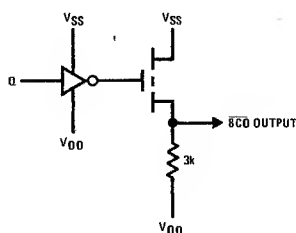
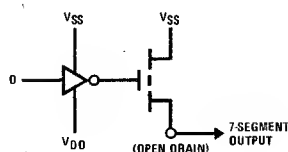
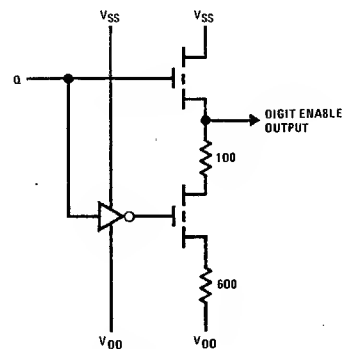

FIGURE 3. BCD Output Circuit
FIGURE 4. 7-Segment Output Circuit
FIGURE 5. Digit Enable Output Circuit
**Output Circuits:** *Figure 3* illustrates the circuit used for the BCD outputs. *Figure 4* shows the circuit used for the 7-segment outputs. The digit enables output circuit is shown in *Figure 5*. *Figures 6 and 7* illustrate typical applications for the MM5318.